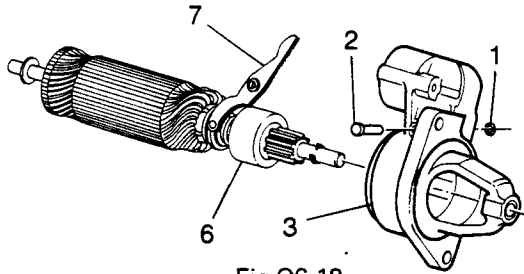

Fig O6.18
- (1) Refer to Fig O6.18. Slide the roller clutch drive (6) and lever assembly (7) and the thrust washer onto the armature shaft.
- (2) Fit the jump ring into the groove in the armature shaft and drive the thrust washer squarely onto the jump ring.
- (3) Refit the fixing bracket (3) to the armature assembly and secure with the pivot pin (2) through the bracket and the bore in the drive engagement lever.
- (4) Fit a new Spire retaining ring (1).